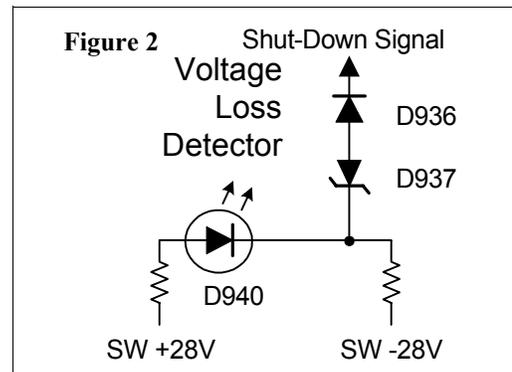

Figure 2
(See Figure 2)
In Figure 2, there are two resistors of equal value, (15K). One to the positive voltage SW +28V and one to the negative voltage SW -28V. At their tie point, (*neutral point*), the voltage is effectually zero (0) volts. If however, the negative voltage is lost, the neutral point will go positive. This in turn will cause the zener diode D937 to fire, creating a Shutdown Signal through **D936** and on to the appropriate circuit indicated on the drawing as point (A).
The purpose of the Negative Voltage Loss detection circuit is to compare the negative voltage with its' counter part positive voltage. If at any time, the negative voltage drops or disappears, the circuit will produce a Shutdown signal. In Figure 2, there are two resistors of equal value. One to the positive voltage +5V and one to the negative voltage -5V). At their tie point, (*neutral point*), the voltage is effectually zero (0) volts. If the negative voltage is lost, the neutral point will go positive. This high is routed through **DK90** through **PPD3** pin 6. This signal is routed to the appropriate circuit on the Lo Voltage Shut Down Circuit. The Shut Down signal is depicted as **PROTECT\_DEF**.